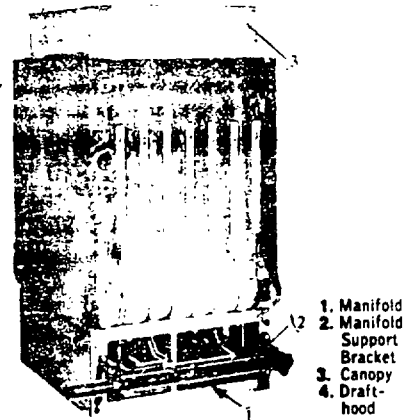

FIG. 10—Burners, Manifold, Canopy And Draft-hood Assembled
6. Starting at either end of base, place each mixer tube firmly on its orifice holder and on the burner support. Place burners on mixer tubes. Ends of burners with two tapped holes for pilot brackets should face the front. See that burners are straight and level when assembly is complete. Tighten set screws in manifold brackets. See Fig. 10.